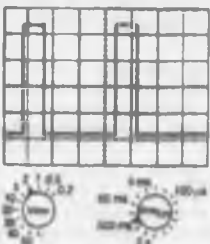

Figure 10.20
- 2 For the pulse waveform shown in Fig. 10.20, find (a) its frequency, (b) the magnitude of the pulse voltage